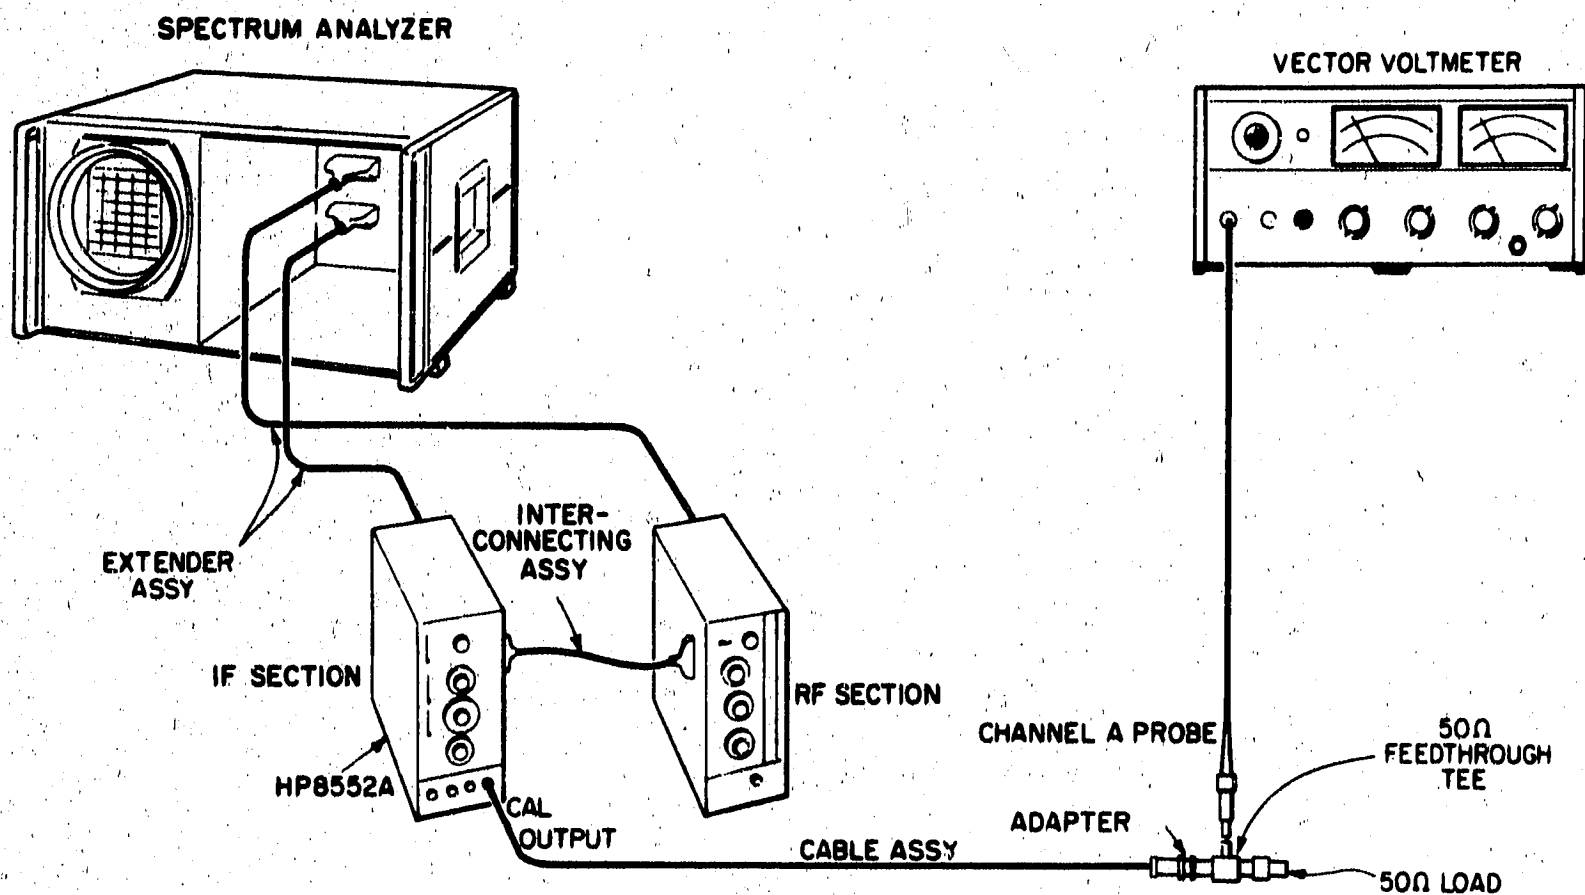

Figure 5-18. 30 MHz Calibration Amplitude Adjustment Setup
1. Connect the equipment shown in Figure 5-18 and make the following control settings: